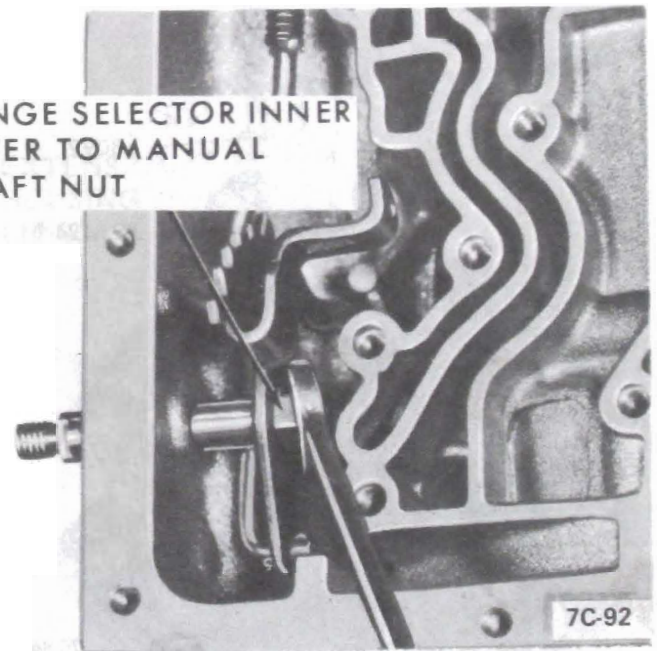

Figure 7C-92
7. Remove parking pawl shaft retaining plug stake marks. Remove retaining plug, parking pawl shaft, parking pawl, and disengaging spring. See Figure 7C-96.